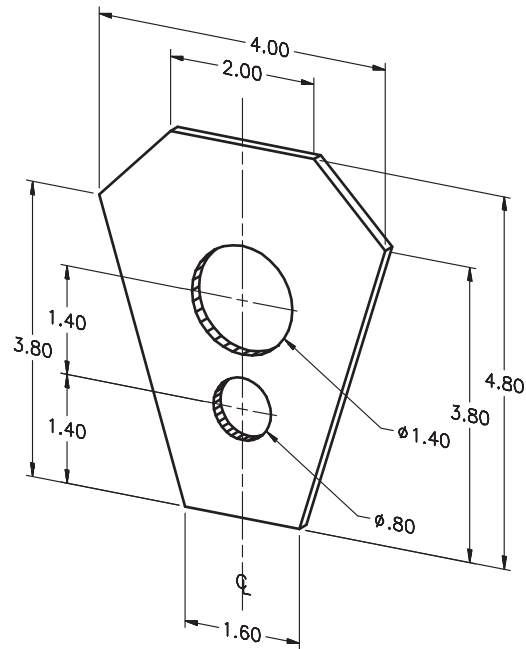

Fig. 11-14
3. Draw the front view of the tube bulk-head shown in Fig. 11-14. Before drawing the holes, use the **UNDO** command to mark the current location in the drawing. After completing the bulkhead, use **UNDO** to replace the two holes with two new ones. Draw both of the new holes with a diameter of **1.00**. Change the center-to-center distance from **1.40** to **1.60**.